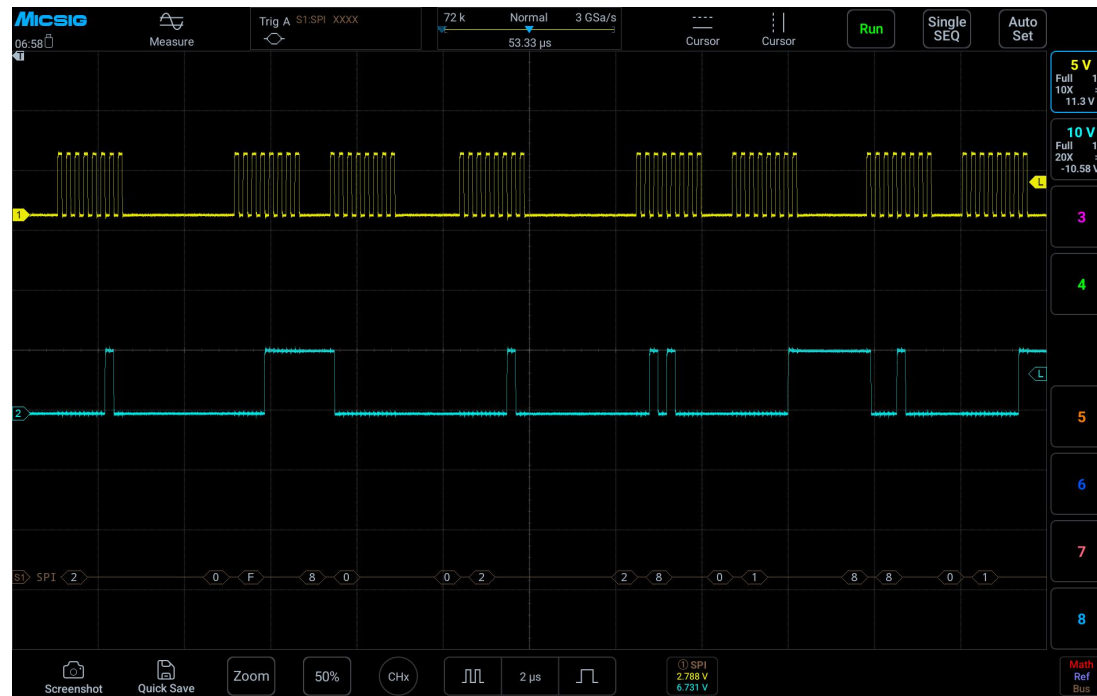

Figure 12-20 SPI bus decode interface
- (1) Tap S1 to open the decode channel, and click S1 again to open the bus configuration menu;
- (2) Select the bus type as “SPI”, click clock as “Ch1” rising edge, the data is “Ch2” high level, and the data word length is “4bit”;
- (3) Open the trigger setting menu, click data on the touch screen, and use the virtual soft keyboard to set the data to be matched as “0001”;
- (4) Adjust the threshold levels of two channels according to signal amplitude; the SPI trigger graphic interface is shown in Figure 12-20: